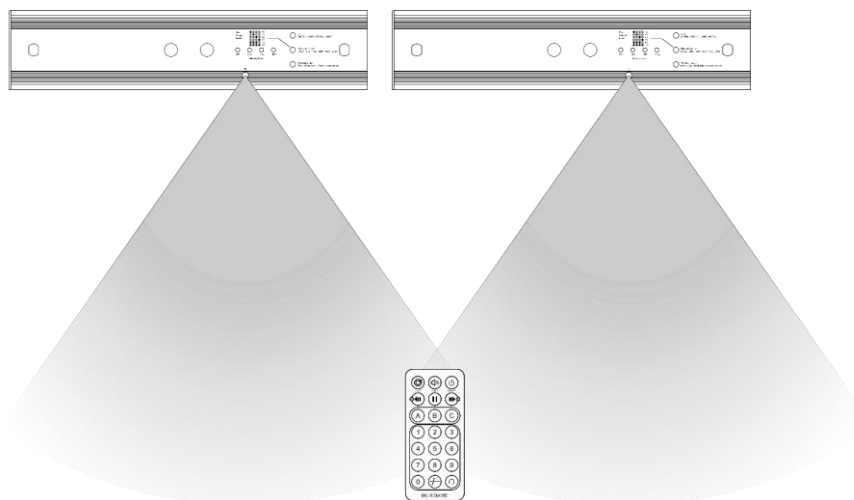
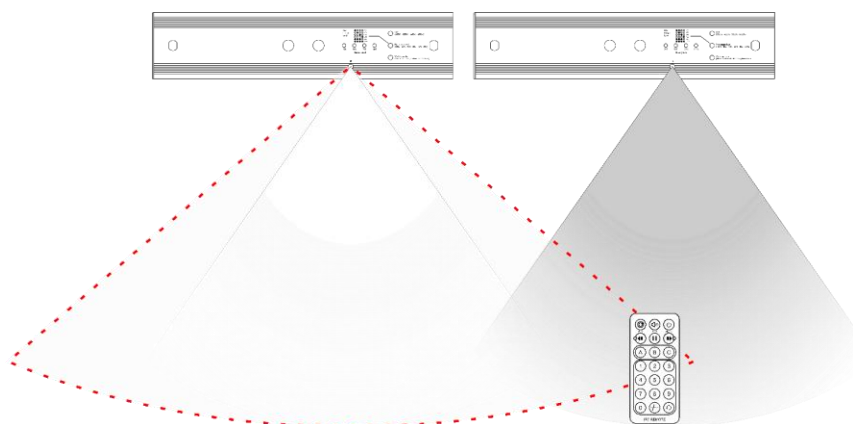

Fig. 12
Fig. 13
You can control several devices at the same time with the remote control. Make sure that you point the remote control to the **infrared sensor (15)** of the device or group of devices that you want to control, as shown in Fig. 12. If you point the remote control to the **infrared sensor (15)** of the device outside of the range of the sensor, the device will not respond to the remote control (Fig. 13).